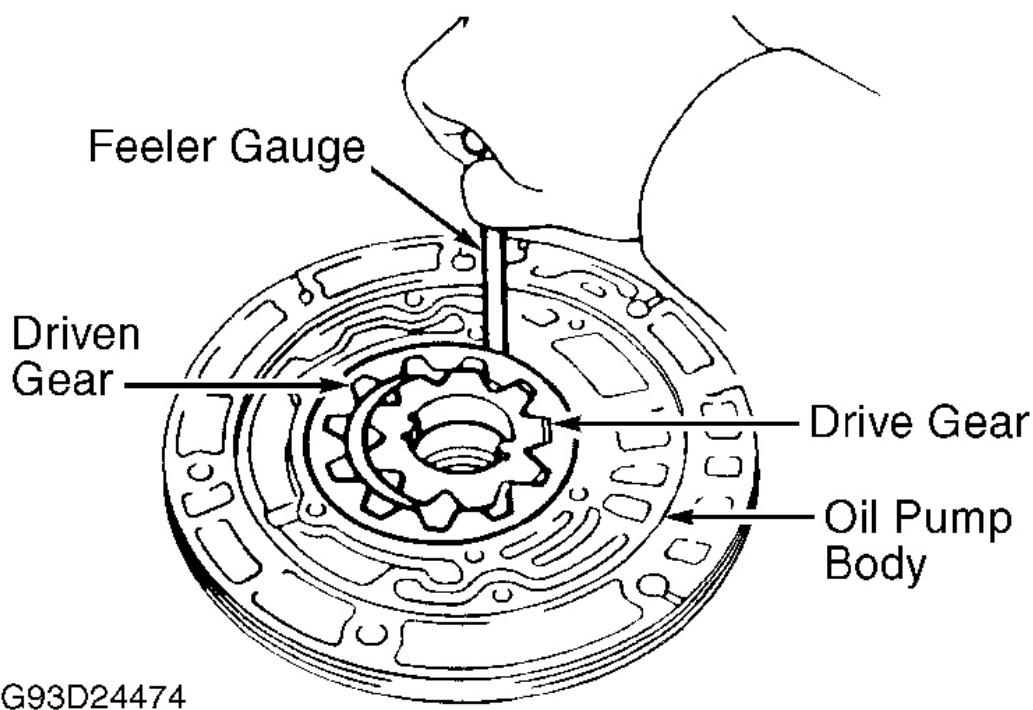

Fig. 21: Checking Oil Pump Driven Gear Clearance
1. Note position of oil pump gears. Clean all parts with solvent. Dry parts using compressed air. Ensure oil passages are clear. Check driven gear-to-body clearance. Push driven gear against one side of oil pump. Measure clearance between driven gear and oil pump body. See **Fig. 21**. Replace oil pump body if clearance is not within specification. See **OIL PUMP CLEARANCE SPECIFICATIONS**.